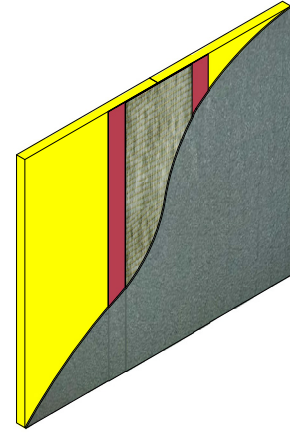

Figure 20
3. Mix and apply Finestop RA/RS/VB per the product bulletin instructions over substrate. (See Figure 20)